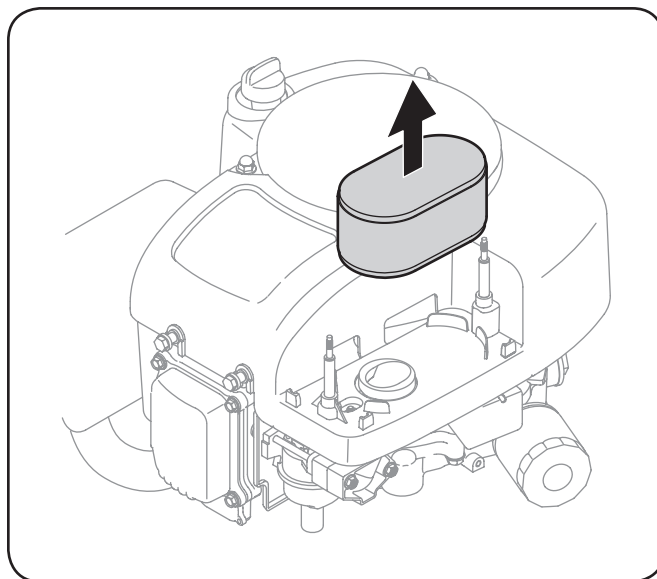

Figure 6-5
2. Remove the air filter. See Figure 6-5.